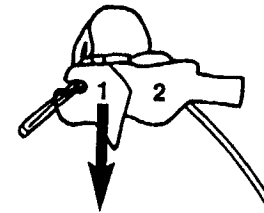

FIGURE 5: Remove Clear Release Paper (1) from the Adhesive Pad
Step 4. Holding the Sensor Connector in one hand, remove the Clear Release Paper (1) from the Adhesive Pad taking care to keep the adhesive surface clean and dry. This surface will adhere to skin and help hold the Glucose Sensor in place (Figure 5).